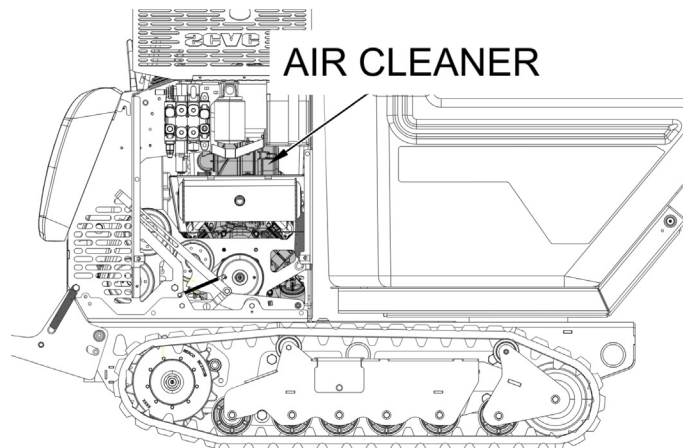

Figure 6-13. Air Cleaner Location
4. Release the two latches securing the air cleaner cover to the air cleaner assembly. Remove the cover and set aside. See Figure 6-13.